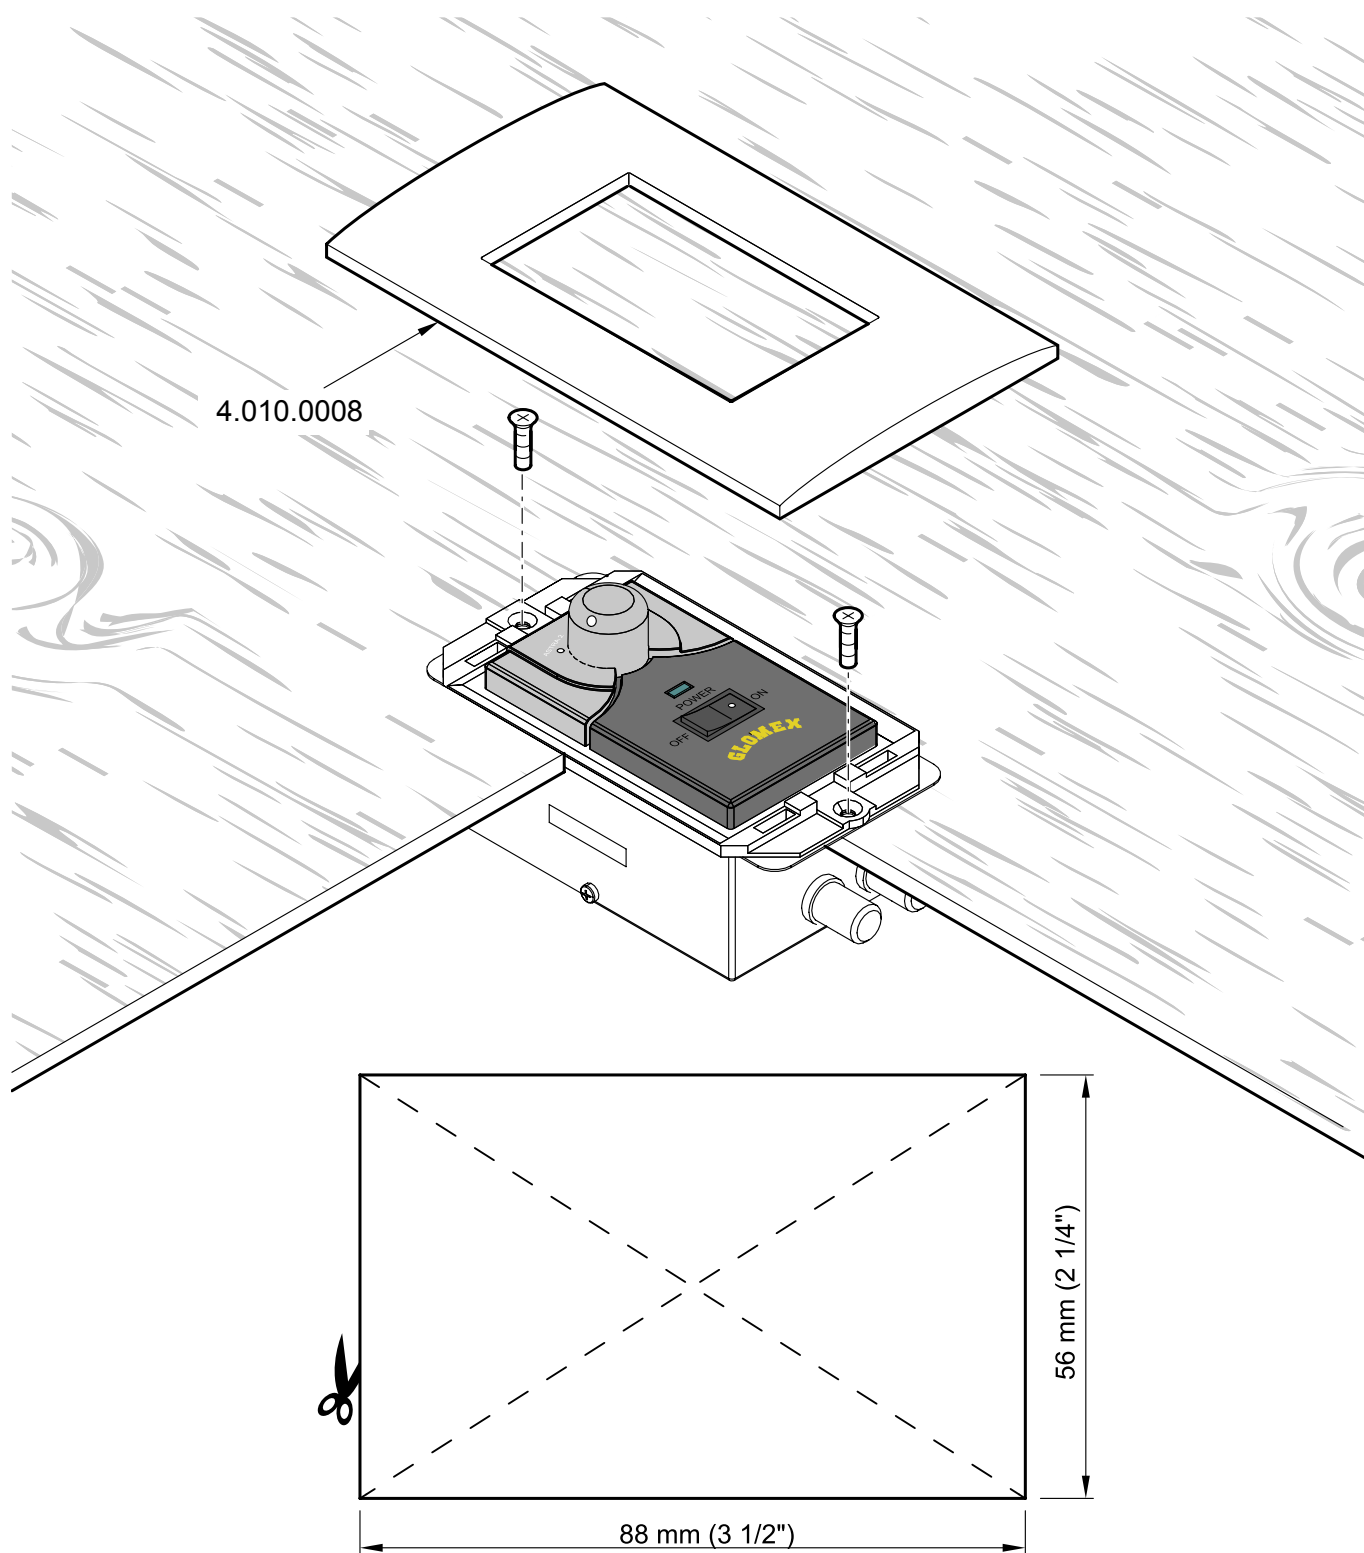

Fig. 15
4. Build in the control unit by using the GLOMEX accessory (code 4.010.0008) by boring a hole with a reciprocating saw and using the drill with 2.5 mm tip (use the template in **Fig. 15** for correct dimensions).